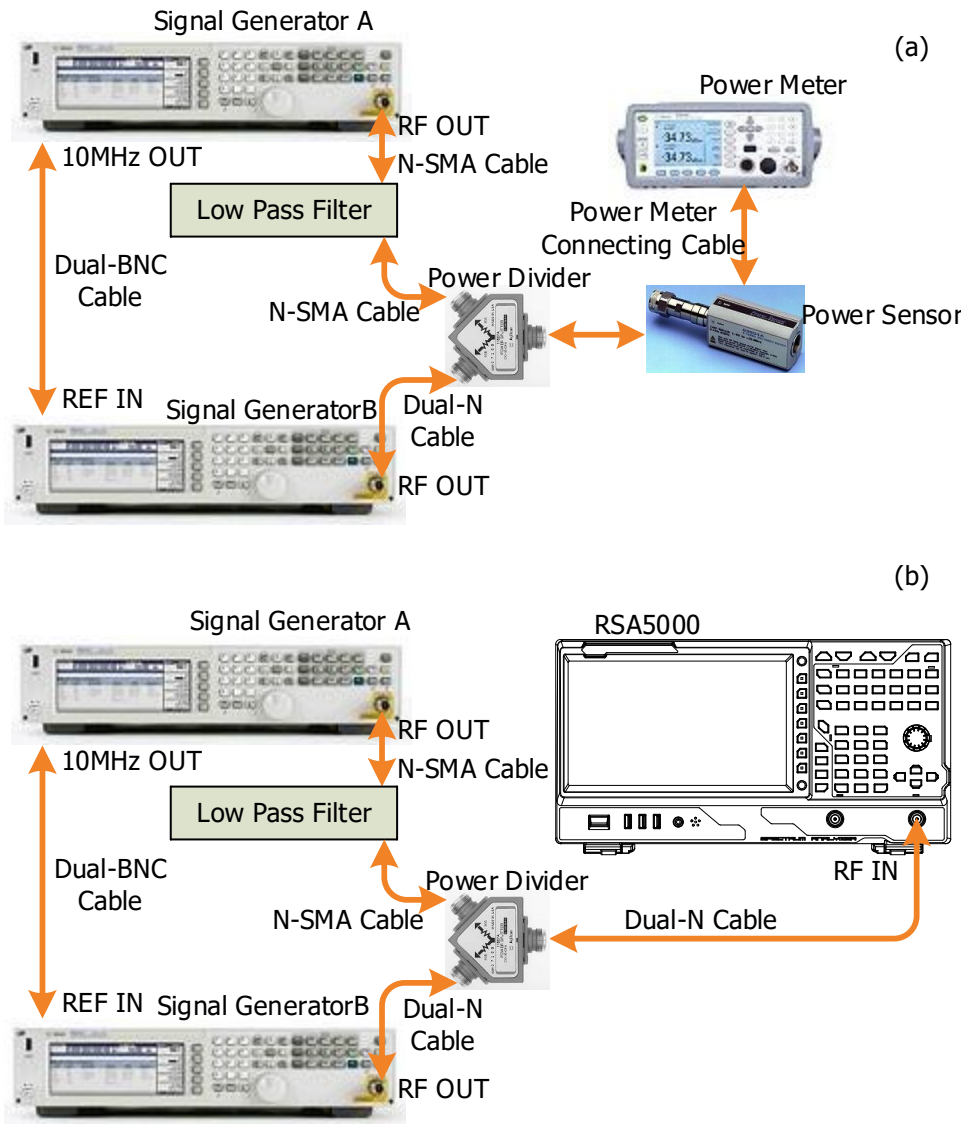

Figure 2-6 TOI Distortion Test Connection Diagram
4. Connect the output terminal of Signal Generator B with the power divider. Connect the power divider with the power sensor, as shown in Figure 2-6 (a).